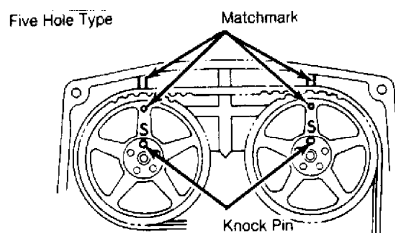

Fig. 10: Five-Hole Type Camshaft Timing Pulley Alignment Marks
6) On 3S-GE engines with 5-hole type camshafts, install knock pin into whichever camshaft timing pulley and camshaft holes are aligned. See Fig. 10. If holes are not aligned, turn camshaft. On both engines, hold camshaft with wrench and tighten pulley bolts to specification. Loosen No. 1 idler pulley set bolt and stretch timing belt. Use care not to loosen set bolt further than point where idler returns.